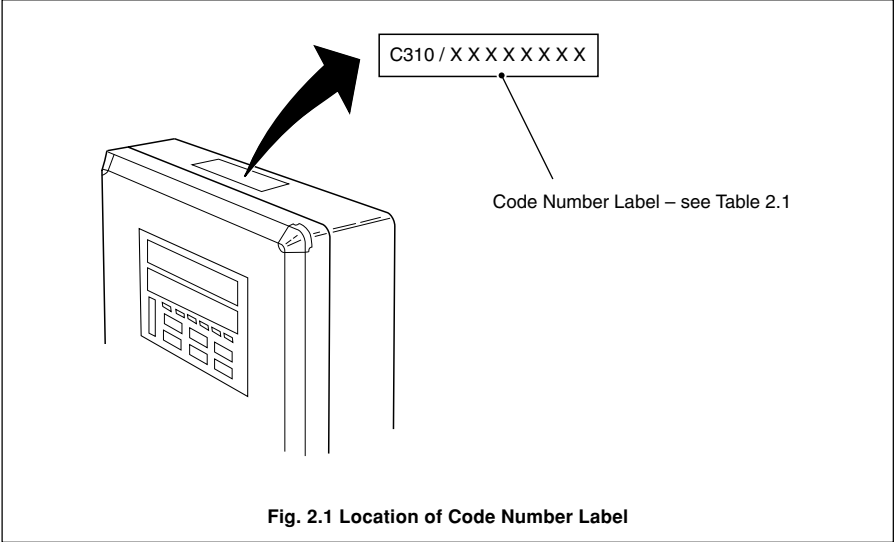

Fig. 2.1 Location of Code Number Label
2.1 Checking the Code Number – Fig. 2.1